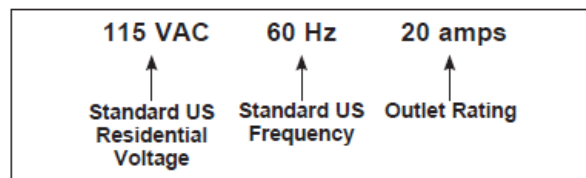
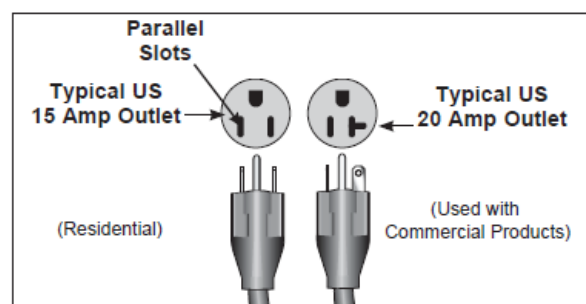

Figure 1
Figure 2
- TRUE's recommendation is to leave a 39" safety zone at rear of elliptical. The sides of the unit should be at least 20" away from the wall or obstructions. (See Fig 1)
For example, in the United States some TRUE treadmills require a circuit rated 115 VAC, 60 Hz and 20 amps. See Figure 1. However, a home typically has 15 amp outlets. In this case, contact an electrician to install a 20 amp dedicated line prior to use. See Figure 2.